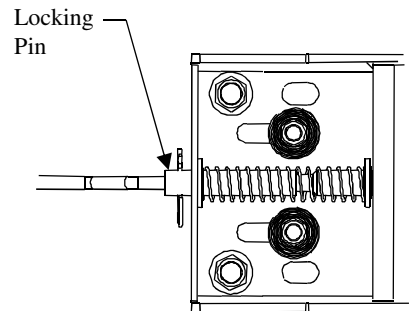

Figure 2
- Install the U-Bolts from the inside of the bed (see figure 2).